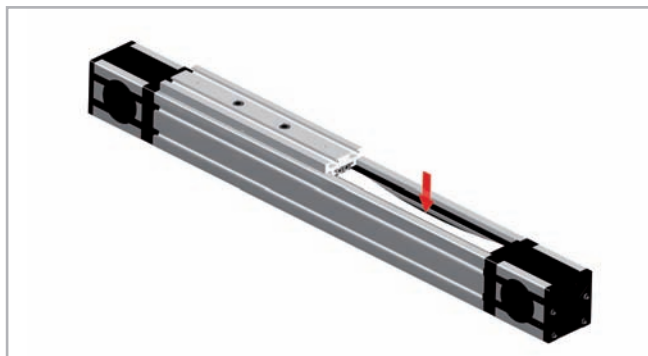

Fig. 40
2. At about half the stroke press and manually move the belt in order to see one of the two rails inside the unit (see Fig. 40).